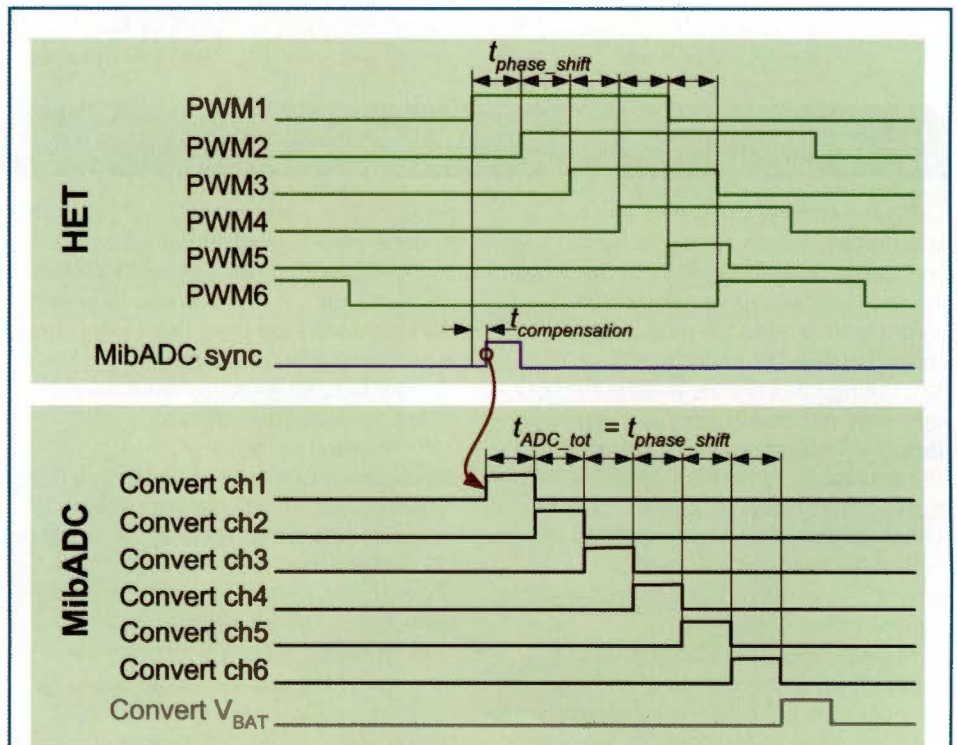

Figure 5: Matched PWM phase shift and total conversion time
$t_{phase\_shift}$  in **Figure 5**), and the sample and conversion timing (see  $t_{ADC\_tot}$  in **Figure 5**) need to be equal. With MibADC and HET this is no problem, because the sample time, as well as the phase shift delay, can be configured precisely and in a wide range.
**Figure 5** also shows that *sync* is another phase shifted PWM signal generated with a CNT and ECMP instruction. The phase shift between PWM1 and *sync* ( $t_{compensation}$ ) accounts for the system-dependent delays as previously described. The frequency of *sync* depends on how often load diagnostics shall be performed and is equal to or a multiple of the PWM period. For fast failure detection it is recommended to choose the PWM frequency for *sync*. In this case each PWM period one complete set of sense values are captured.